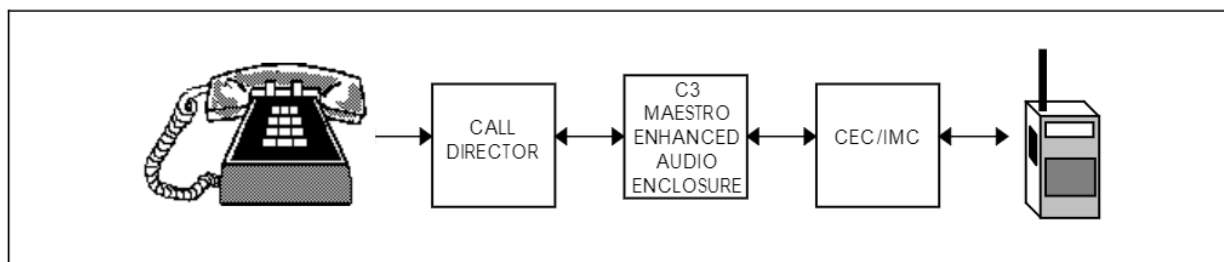

Figure 3 - Basic Call Director Patch Audio Routing
In addition to normal dispatch operations, the C3 Maestro console system can be connected to Call Director (CD) telephone equipment. This feature allows the C3 Maestro to "patch" a telephone line to a specific unit, talk group, conventional channel or radio patch in the CEC/IMC network. See Figure 3.